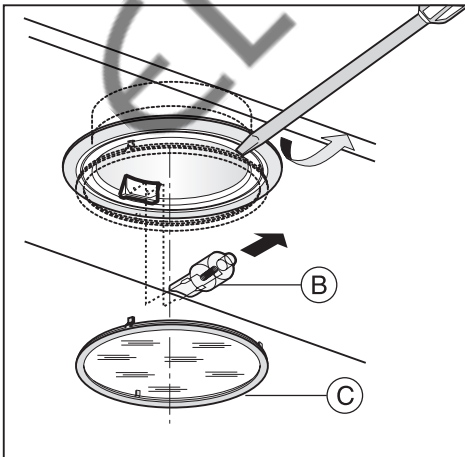

Fig.20
• Replacing halogen light bulbs (Fig.20):